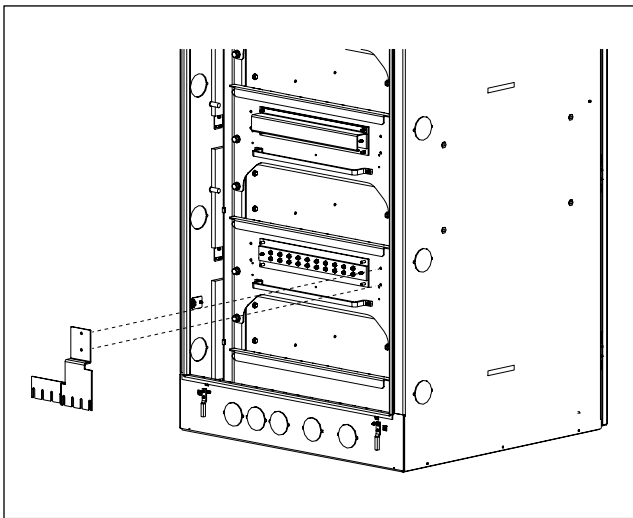

Figure 2 Lacing Bar
3. Mount one kit lacing bar to the rear battery retaining bracket, to the right of the bus bar (Figure 2). Use the 1/4-20 hardware that ships with the kit.